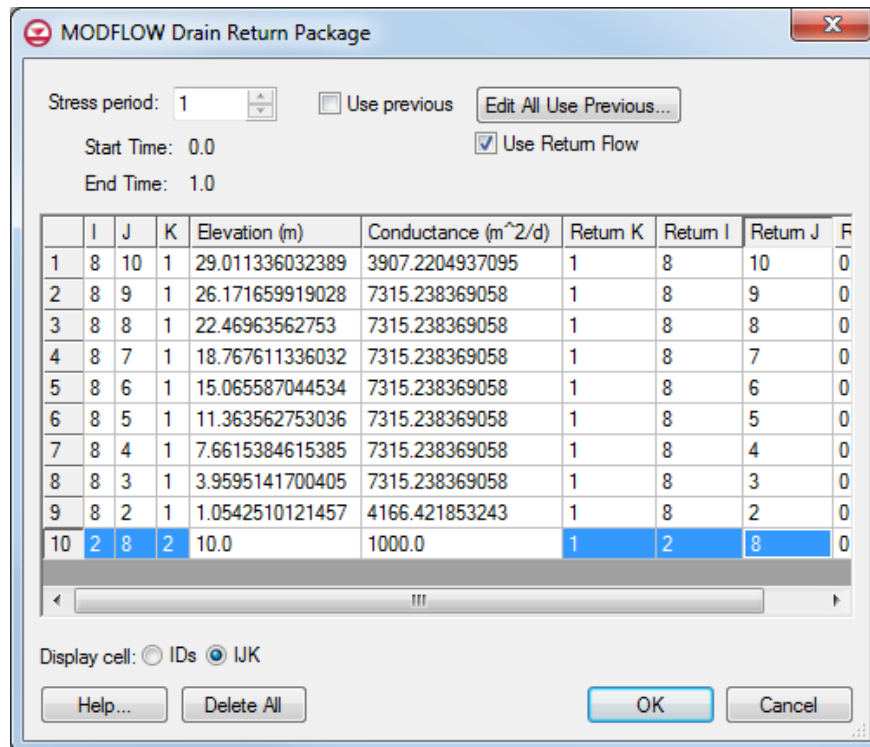

Figure 11 DRT boundary condition and return coordinates
- At the bottom of the dialog, select *IJK* from the two *Display cell* options. Notice that the last DRT boundary condition is located at *IJK* “2,8,2” (Figure 11, highlighted at bottom left) and the return *KIJ* is 1,2,8 (Figure 11, highlighted at bottom right).